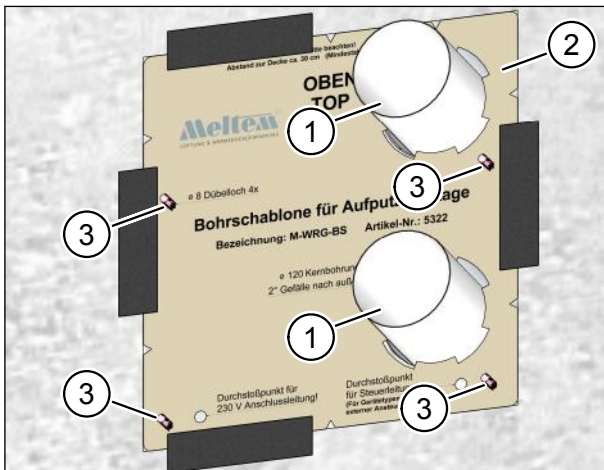

Fig. 14: Ventilation pipes on the internal wall
- ▶ Position the drilling template (item 2 in Fig. 14) on the internal wall.
- ▶ Fix the drilling template in place with the four S8 dowels (item 3 in Fig. 14).
- ▶ Push the two ventilation pipes (item 1 in Fig. 14) through the core drill holes so that they protrude from both the internal and external wall. The ventilation pipes are fixed in place on the internal wall by the drilling template for the ventilation unit (item 2 in Fig. 14).